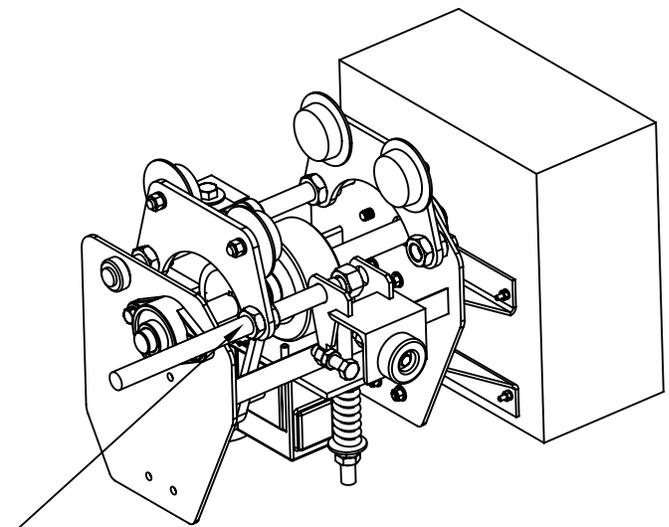

Figure 13
8. Unscrew the outside nut on the Beam Boss **per Figure 13**. Repeat for the outside nut on the opposite side of the threaded rod.
9. Screw the inside nut towards the middle of the threaded rod to allow space for the threaded rod to be removed from the side indicated **per Figure 13**.
11. Insert the end of the threaded rod through the bumper assembly hole **per Figure 13**. Then screw the threaded rod back into the adjustment hinge weldment, having the nut in between the vertical plates of the Beam Boss Etruck bumper adapter.